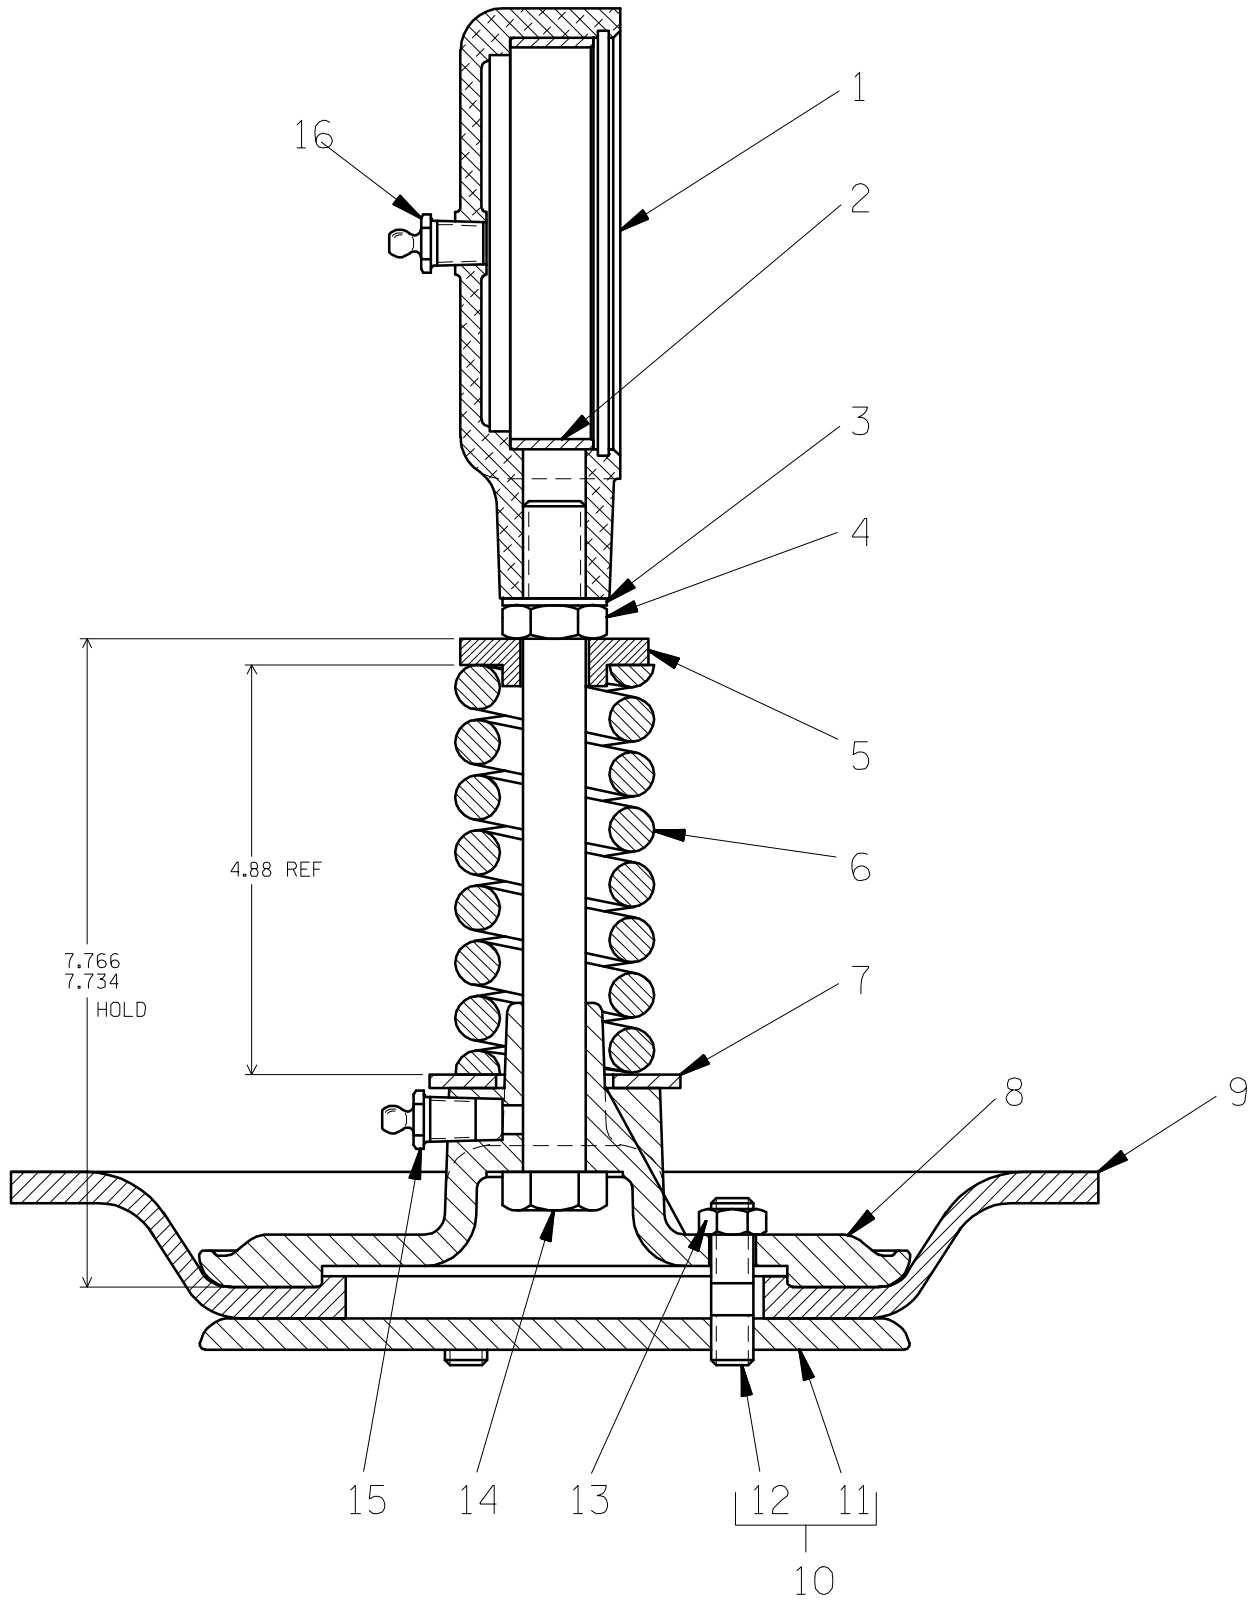

Figure 3. Standard 5685 And Optional 5685B Plunger Rod Assembly
To remove the diaphragm (9, Figure 3), disengage the hardware (25, 26 and 27) and remove the diaphragm pot assembly (28). Inspect the diaphragm ring (17) for wear or damage. If replacement is required, the gearbox assembly (8) must be removed.
(Figure 3)